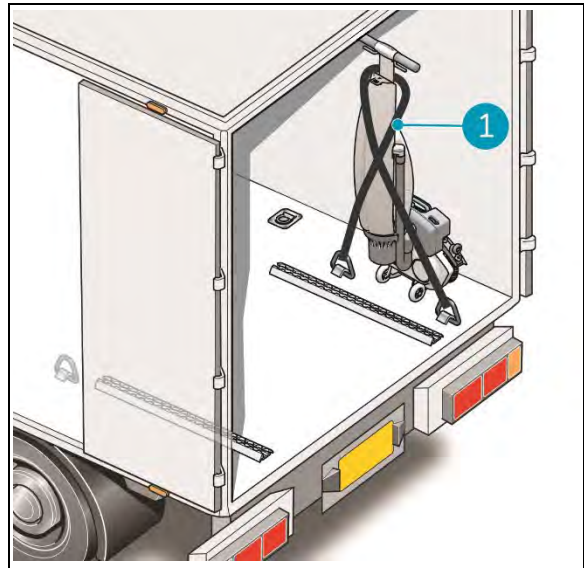

Figure 7
5. Secure the imop using a tension belt or another appropriate restraint (Figure 7, pos 1).